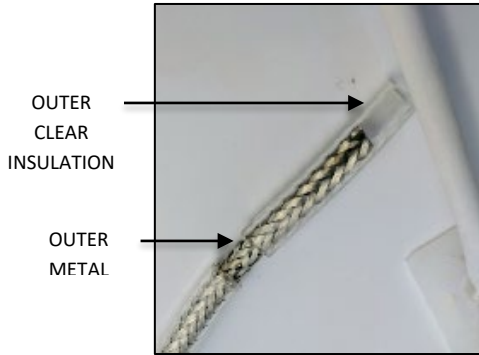
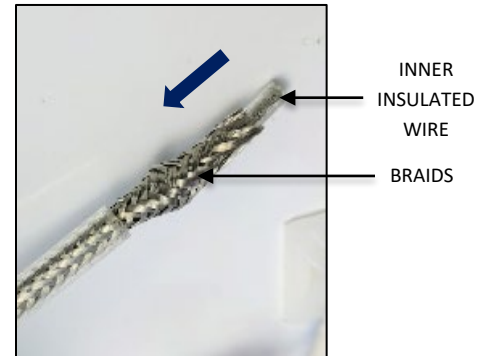

FIG. 19
FIG. 20
1. Strip off 1.00" of outer clear insulation exposing the outer metal braiding as shown in FIG. 19 below. **Be careful not to cut or damage the outer metal braiding.** Gently push braiding down to loosen the individual braids exposing the inner insulated wire as shown in FIG. 20 below.